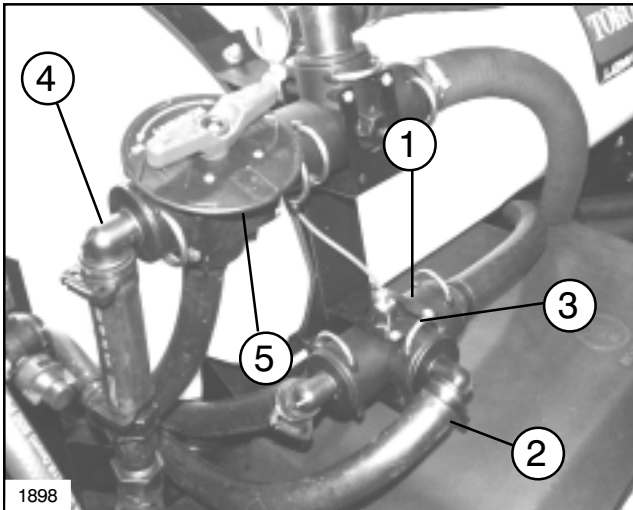

FIG. 10
25. Remove Plug from Pressure Tee on right of machine and install Pressure Supply Hose. Secure with U-Shaped Fork. Attach other end of Hose to Tee at left of Control Valve. Secure with Hose Clamp. (See FIG. 10 & 11)
26. Attach Agitation Hose to Control Valve By-pass and secure with large square Fork. Attach other end of Hose to bottom of Agitation Control Valve, hand tighten nut. (See FIG. 10 & 11)